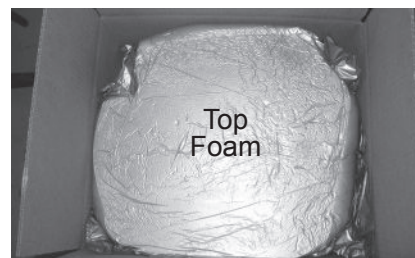

Figure IS-3 Top Foam
5. Open the Phoroptor box and remove the top foam. Refer to Figure IS-3.